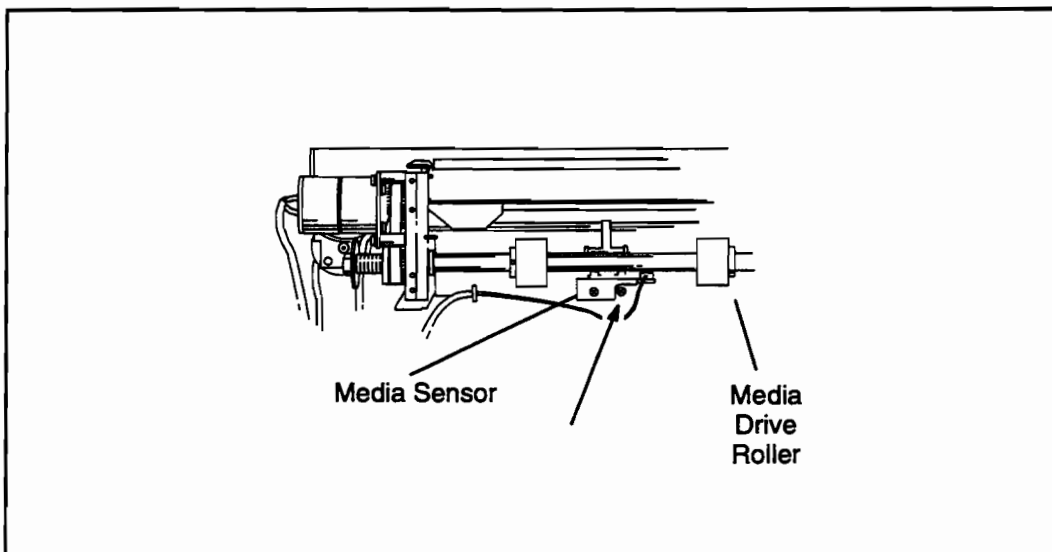

Figure 6-87. Media Eject Sensor
10. Remove the screw securing the sensor assembly to the plotter. See Figure 6-87.